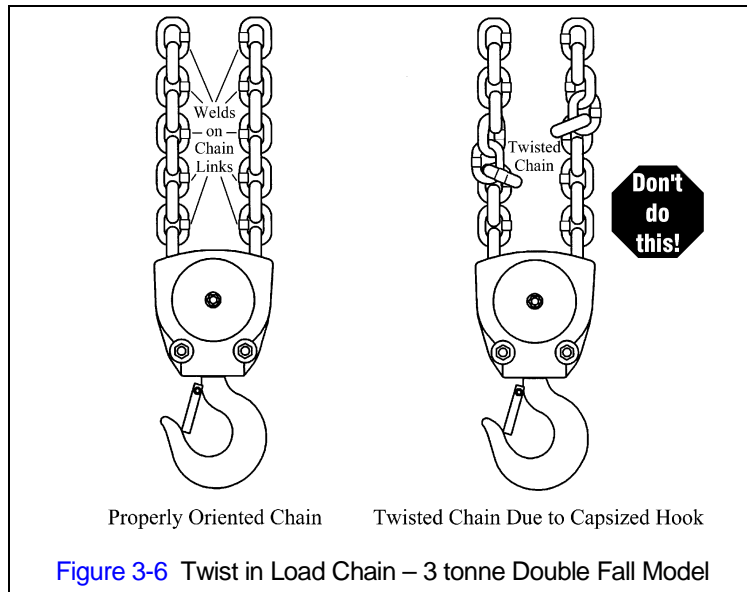

Figure 3-6 Twist in Load Chain – 3 tonne Double Fall Model
3.2.6 **⚠️WARNING** Verify that the load chain is not twisted or tangled prior to operating the hoist. Make sure the bottom hook on 3 tonne double fall model is not capsized. See Figures 3-6 and 3-7. Correct all chain irregularities before conducting the first hoist operation.